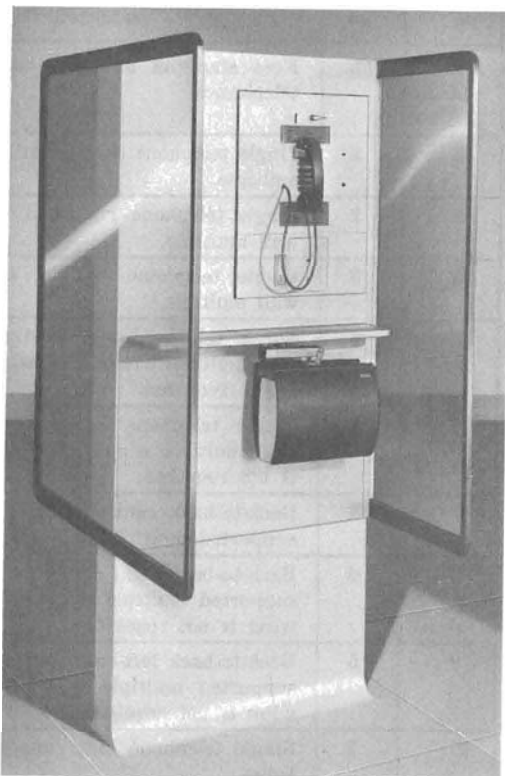

Fig. 1—KS-20630 List 1 Coin Telephone Booth With List 16 Base Assembly Concealed Beneath Dress Finish
- 1.02** The KS-20630 telephone booth (Fig. 1) is a doorless coin station intended for indoor walk-up service.